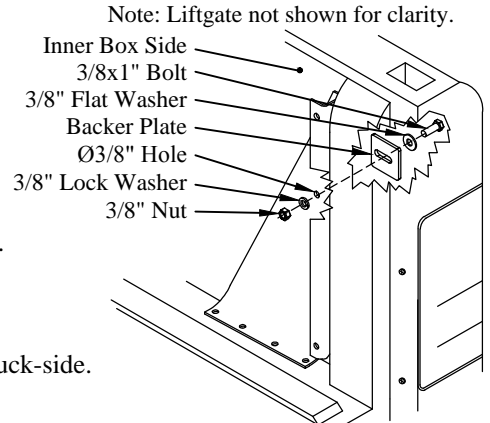

Figure 14: Additional support location.
1. **Locate** the existing 3/8" hole in the mounting bracket (Figure 14).
4. **Fasten** the mounting bracket to the inner box side using the supplied (Figure 14):